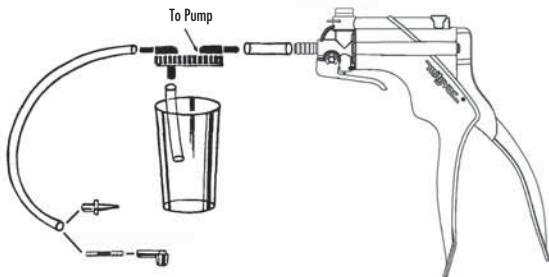

FIGURE 1: BRAKE BLEEDING KIT
3) Slip 1½" of tubing between the pump and the lid of reservoir jar at port marked "TO PUMP" (FIGURE 1).